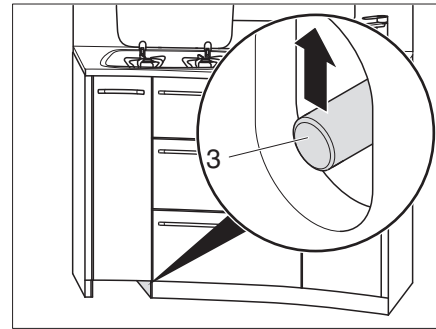

Fig. 126 Unlocking kitchen drawers
- Slide the push rod (Fig. 126,3) upwards.